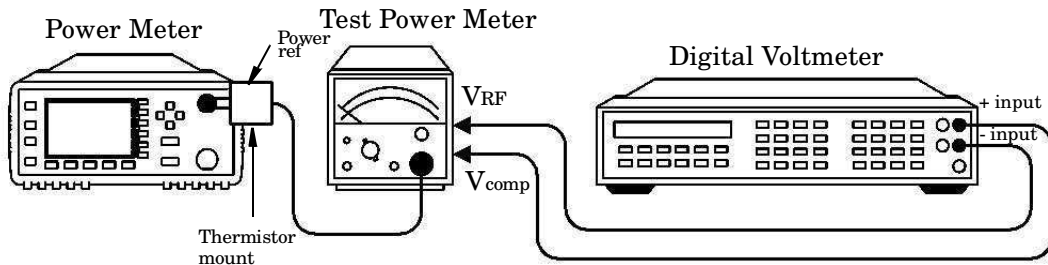

Figure 2-9: Output Standing Wave Ratio Test Setup
9. Connect the equipment as shown in Figure 2-9 ensuring that the DVM input leads are isolated from chassis ground.
• Connect the equipment as shown in Figure 2-9 ensuring that the DVM input leads are isolated from chassis ground.